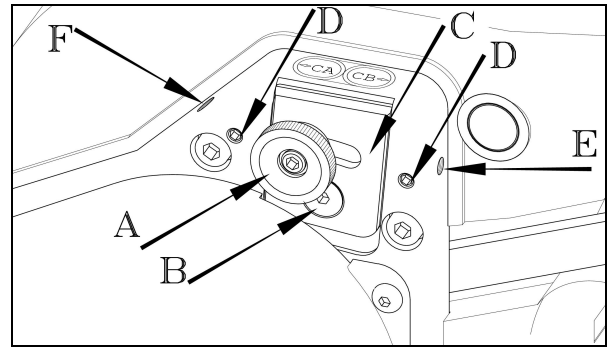

Fig 1
The positioning of the following screws and plate are only preliminary adjustments. Loosen screws (A) & (B) in Fig 1. Move the adjusting plate (C) to the center of its travel and tighten screw (B). Loosen set screws (D). Turn adjusting screws (E) & (F) outwards.